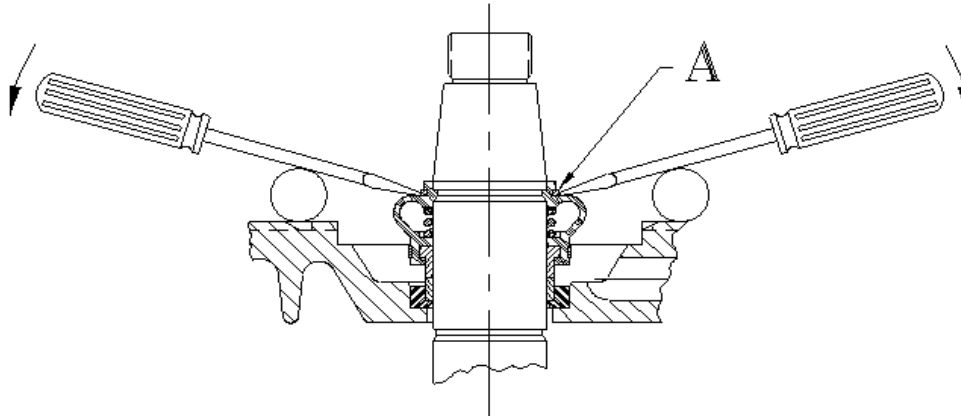

FIGURE 1
1. After removal of the bearing frame (101) from the hydraulic parts, place the bearing frame (101) in the horizontal position. Remove the impeller bolt (415) and impeller (401).
2. Remove the impeller flange locknut (166) and lockwasher (167). Use a puller or a pair of thin wedges to remove the impeller flange (165) from the shaft taper. (Note: The D2W may not have an impeller flange, depending on the impeller. Also, some versions of both bearing frames may not have items 166 & 167.)
3. Remove drain and vent plugs (536), and drain oil into suitable container. If the oil is clear, and not dirty or emulsified, it may be reused. Otherwise, dispose of waste oil in accordance with local environmental and safety regulations.
5. Insert two pry bars, such as dull-edged pry bars, under the upper lip on the seal and remove the seal by gently prying with the two pry bars on opposite sides. See Figure 1.
USE ONLY DULL EDGED PRY BARS SINCE SHARP EDGES COULD CUT THE ELASTOMERS. DO NOT TWIST PRY BARS AS THIS CAN PUNCTURE ELASTOMERS. RATHER, LAY SOME CONVENIENT OBJECT ONTO BACKPLATE TO ACT AS A FULCRUM FOR EACH PRY BAR, AND PRY RING DIRECTLY UP AWAY FROM BACKPLATE. (SEE FIGURE 1).